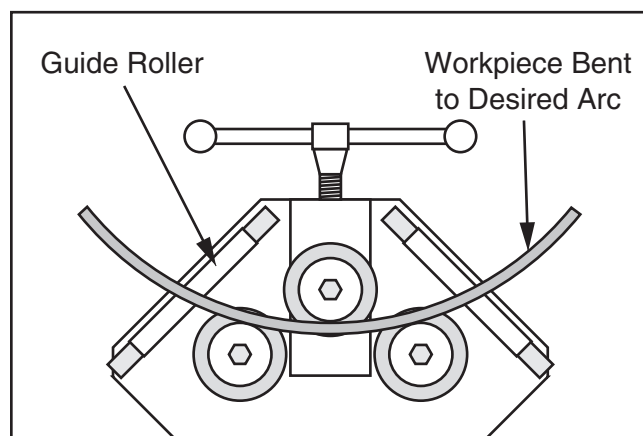

Figure 22. Workpiece positioned on headstock for compound bend.
To roll a compound arc you must introduce a slight twist to the arc, so that it bends in both axes. This is accomplished by adjusting one of the guide rollers (see **Figure 22**) so that it exerts lateral force on the workpiece as it passes through the headstock.
1. Roll an arc to your desired radius, as illustrated in **Figure 22** (refer to **Rolling Arc in Vertical Position**, beginning on **Page 18**).